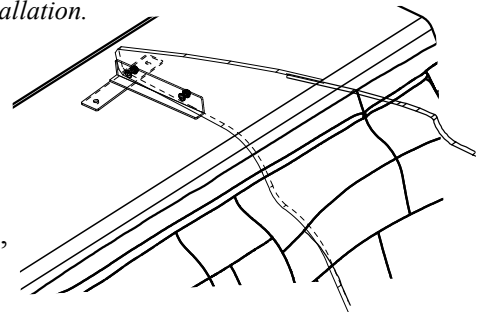

FIG. 17
- E. Once you've installed the divider, mount the divider deck bracket in place. Slide the T-bracket under the divider tail. Position the T-bracket where desired and use the (3X110) self-tapping screws to fasten the bracket into the speaker deck (See Fig. 17).